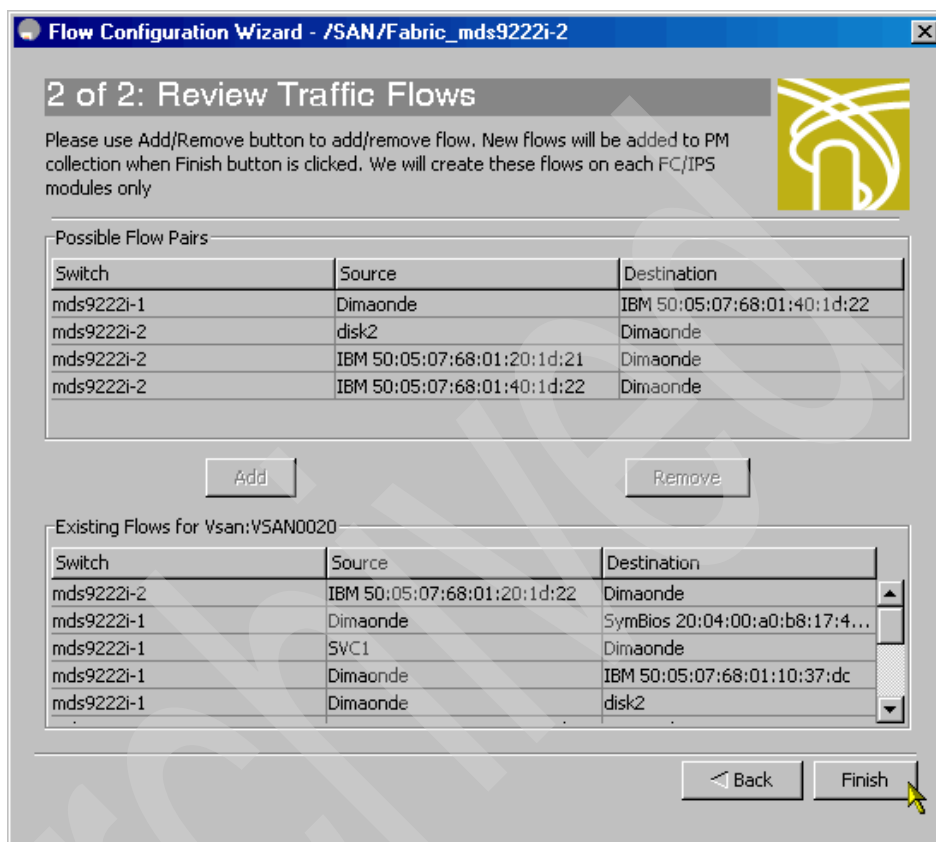

Figure 8-39 Traffic flow definition completed
- When you have finished selecting traffic pairs and creating flows click **Finish**, as shown in Figure 8-39, to complete the flow definition.